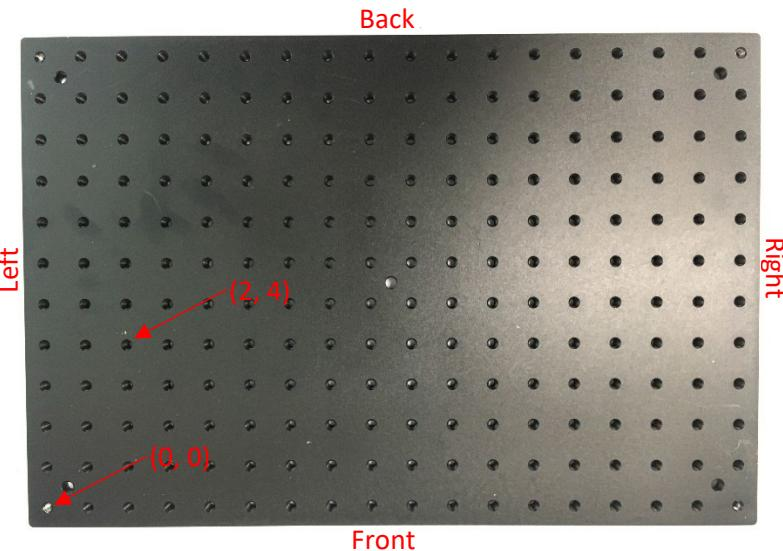
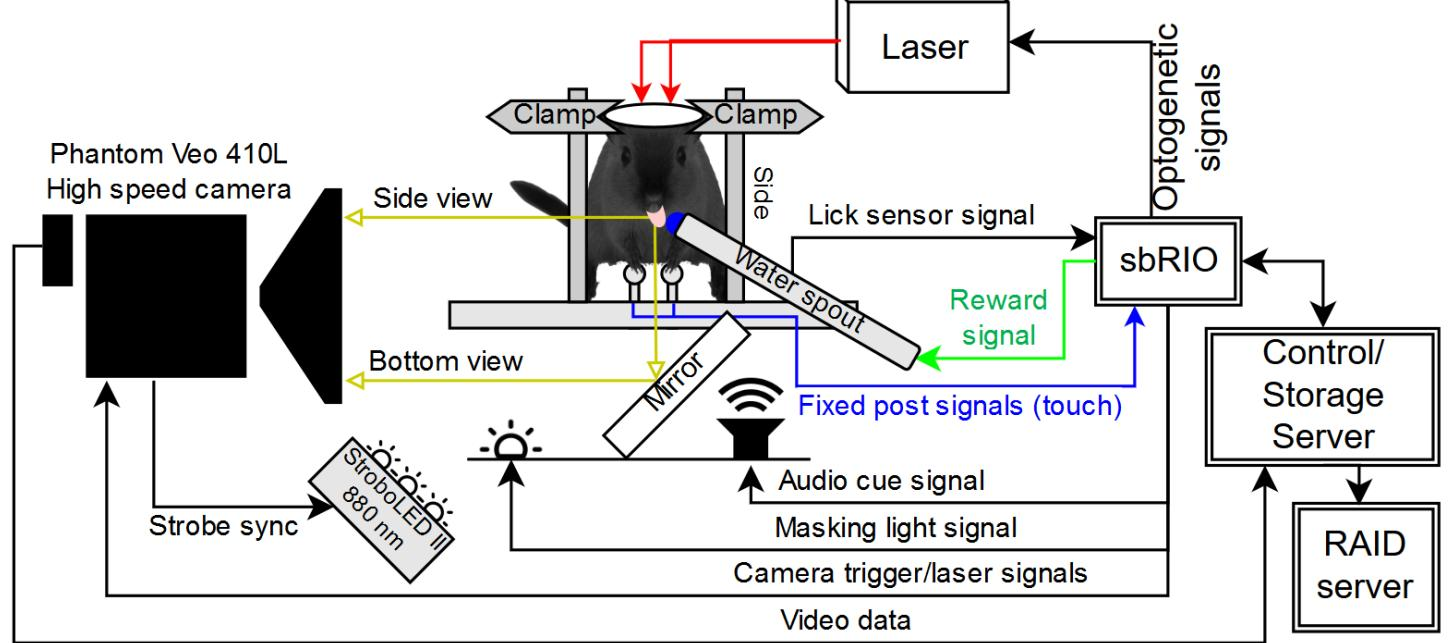

Figure 1 The coordinate system used throughout the documentation
Figure 2 Overall system diagram
This guide describes in detail the process for building a mouse head-fixed lick rig for studying mouse neurobiology via lingual kinematics. This rig is capable of collecting millisecond resolution lick and paw touch data, and lick-triggered high speed (1 kHz) video of simultaneous side and bottom views of the tongue as it licks within a flexible experimental paradigm that can include optogenetic inactivation. See Figure 1 for a diagram of the coordinate system used throughout the documentation. See Figure 2 for an overall diagram of the system. Some have been custom machined or 3D printed – the specs for these components are made available at the following URL: <https://github.com/GoldbergLab>. We built a single setup for taking high speed video (a “video box”), and several for simply training the mice without video. The instructions for creating a training box are a subset of the instructions for creating the video box.
- See Figure 1 for an explanation of the coordinate system used here.